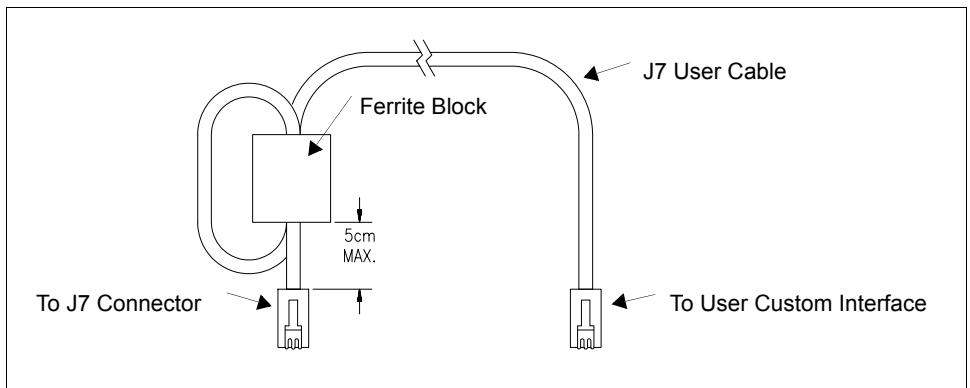

Figure 2.6 J7 User Cable with Ferrite Block
3. Loop the cable through the ferrite block. See Figure 2.6, “J7 User Cable with Ferrite Block” on page 27.